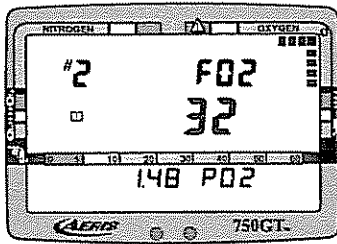

Fig. 76 - Log (fourth screen)
7. Press the Advance/Left button once more to view the information associated with oxygen (Fig. 76). Displayed will be: Log Mode icon, dive Number, FO2 symbol and the value that FO2 was set at for the dive. If FO2 was set for a value other than 'Air', the PO2 symbol and value of the maximum partial pressure of oxygen attained during the dive will also be displayed. Also shown will be the oxygen loading (O2 bar graph) at the time you surfaced from the dive (maximum for that dive or 24 hour period, whichever was greater at the time). The O2 bar graph will also display the segment that represents the maximum level of oxygen exposure (dose) that you achieved during that dive.